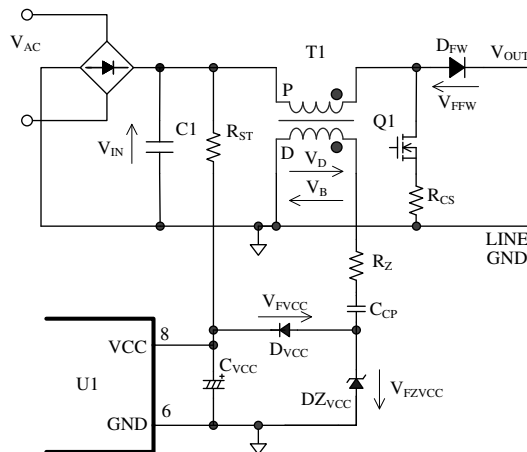

Figure 9-2 VCC pin peripheral circuit (Power supply from auxiliary winding)
When power supply of VCC pin is supplied from auxiliary winding as shown in Figure 9-2, the condition of N_D/N_P is necessary to satisfy both Equation (7) and following Equation (11).